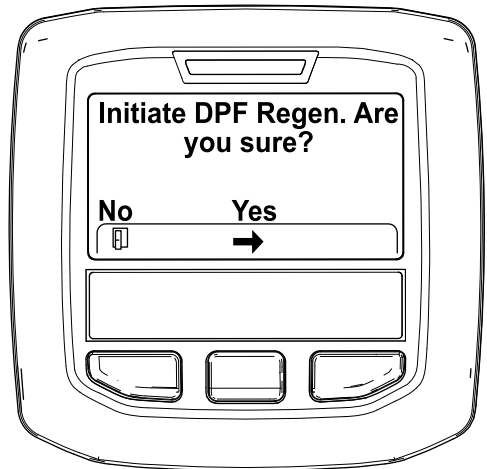

Figure 44
4. When the "Initiate DPF Regen. Are you sure?" message displays, press the center button (Figure 44).